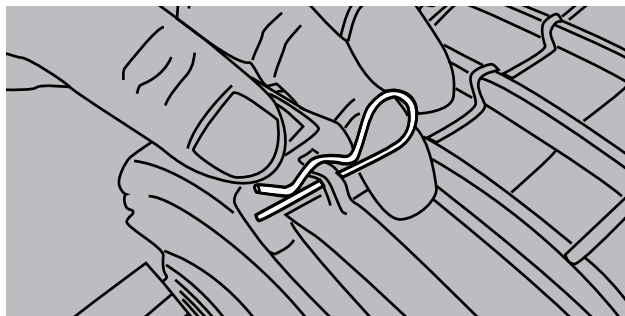

Figure 27
27. If the FibreGuard Closure is correctly sealed the safety cotter pin can be easily fitted into one of the smaller lined up end plate/collar holes. This ensures that the closure is secure prior to pressure testing. (Figure 27)